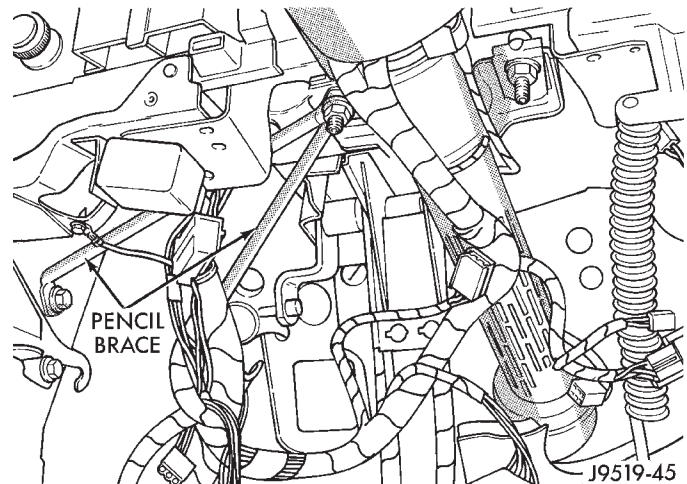
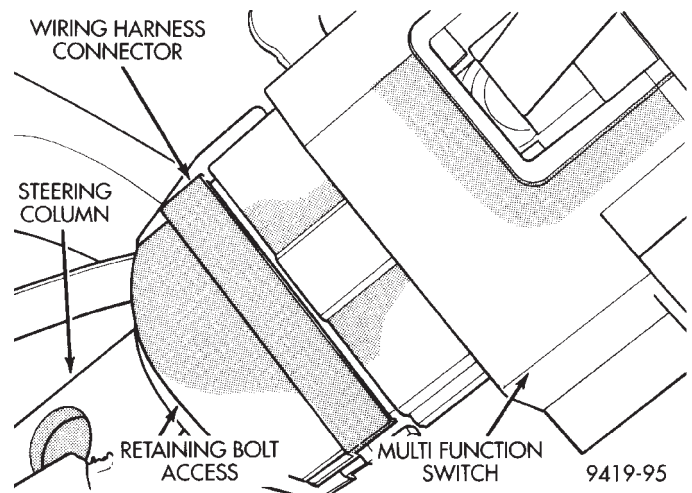

Fig. 12 Steering Column Pencil Braces
Fig. 15 Multi Function Switch Wiring Connection
(10) Remove both pencil braces (fig. 12).
(11) Loosen the panel bracket nuts/studs to allow the column to drop.
(12) Remove wiring harness connector (Fig. 15) from the multi function switch. **Note: Wiring harness connector is retained to multi function switch, using an attaching bolt with a 7mm hex head. access to bolt is through rear of wiring harness connector.**